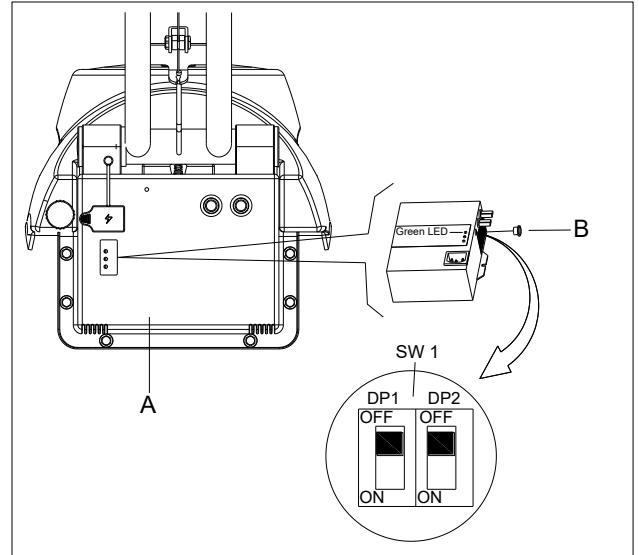

Figure 4.1
1. Turn off the machine and disassemble the cover (A as Figure 4.1) from the machine. Then remove the round black cap located on the front side of the charger (B as Figure 4.1). you will find a set of dipswitch (SW1) in the charger.